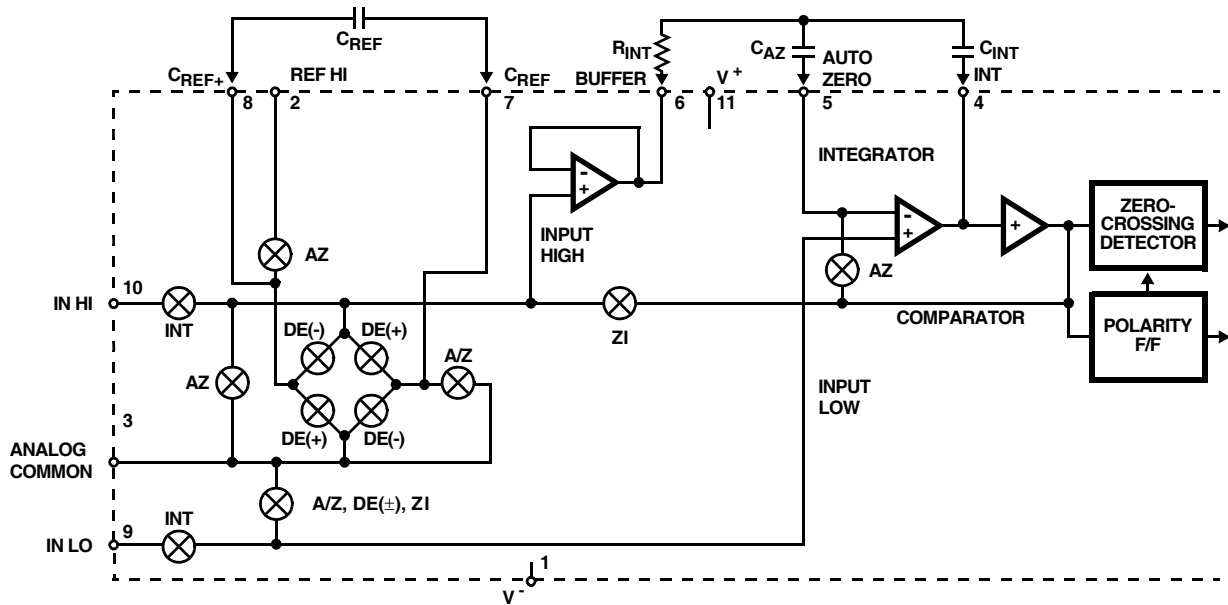

FIGURE 3. ANALOG SECTION OF ICL7135
- Tested in 41/2 digit (20,000 count) circuit shown in Figure 3. (Clock frequency 120kHz.)
Figure 3 shows the Block Diagram of the Analog Section for the ICL7135. Each measurement cycle is divided into four phases. They are (1) auto-zero (AZ), (2) signal-integrate (INT), (3) de-integrate (DE) and (4) zero-integrator (ZI).